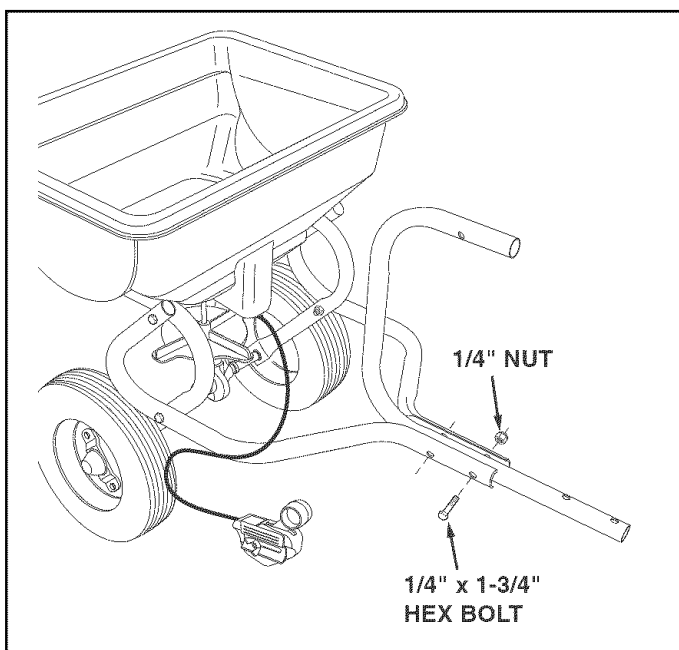

FIGURE 2
- Assemble the Hitch Control Tube between the Hitch Tubes using two 1/4" x 1-3/4" hex bolts and 1/4" nuts. **Tighten all bolts and nuts.** See figure 2.